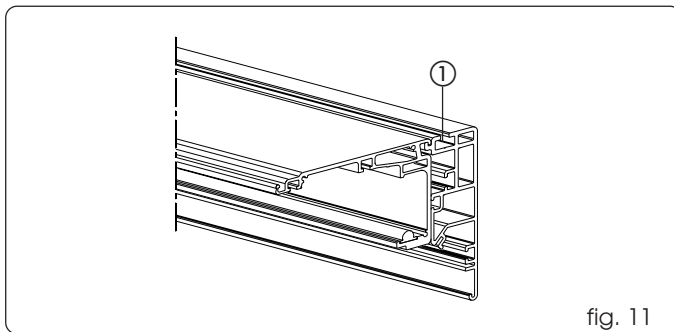

fig. 11
Intermediate securing points may be necessary, depending on the length of the header, using the guide indicated in fig. 11 ref. ①. central securing is required for 3 to 4 m lengths. two intermediate securing points are required for 4 to 6.1 m lengths. However, we advise you to create a central securing point also for lengths of less than 3m.